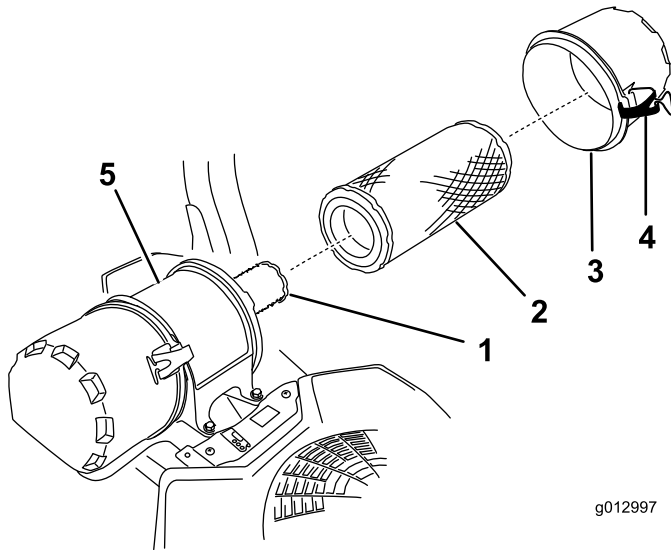

Figure 44
6. Release the latches on the air cleaner and pull the air cleaner cover off the air cleaner body (Figure 44).
- Gently slide the primary filter out of the air cleaner body (Figure 44).
- If the inner filter is being replaced, carefully slide it into the filter body (Figure 44).
- Carefully slide the primary filter over the inner filter (Figure 44).
- Install the air cleaner cover and secure the latches (Figure 44).